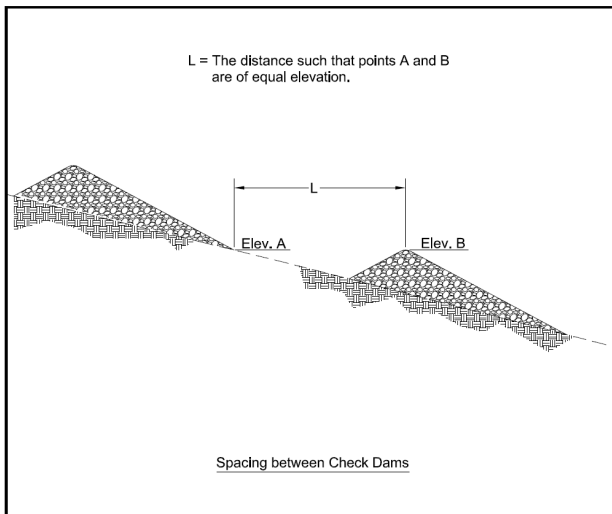

Figure CD-2 Profile of Typical Rock Check Dam
- Space the check dams so that the center of each dam is approximately the same elevation as the back toe of the upstream dam (Figure CD-2).